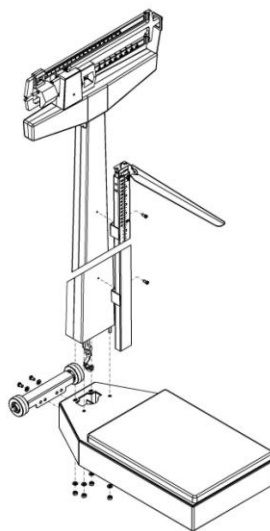

Fig. 1
1. Fix the column to the base using the 4 screws & washers. Fix the wheels assembly to the base using the 2 screws & washers. (See Fig. 1) Fix the measuring ruler to the two hexagonal-head screws pre-assembled on the column. (See Fig. 1)
2. Fix the measuring ruler by tightening the hexagonal-head screws using the relative wrench. Don't tighten too much! (See Fig. 1)